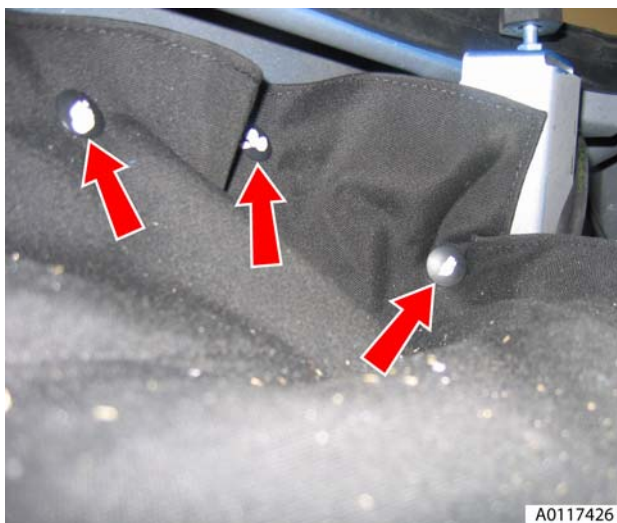

Figure 5
6. Release velcro and 3 clips securing left-hand tonneau well liner edges (see Figure 5).